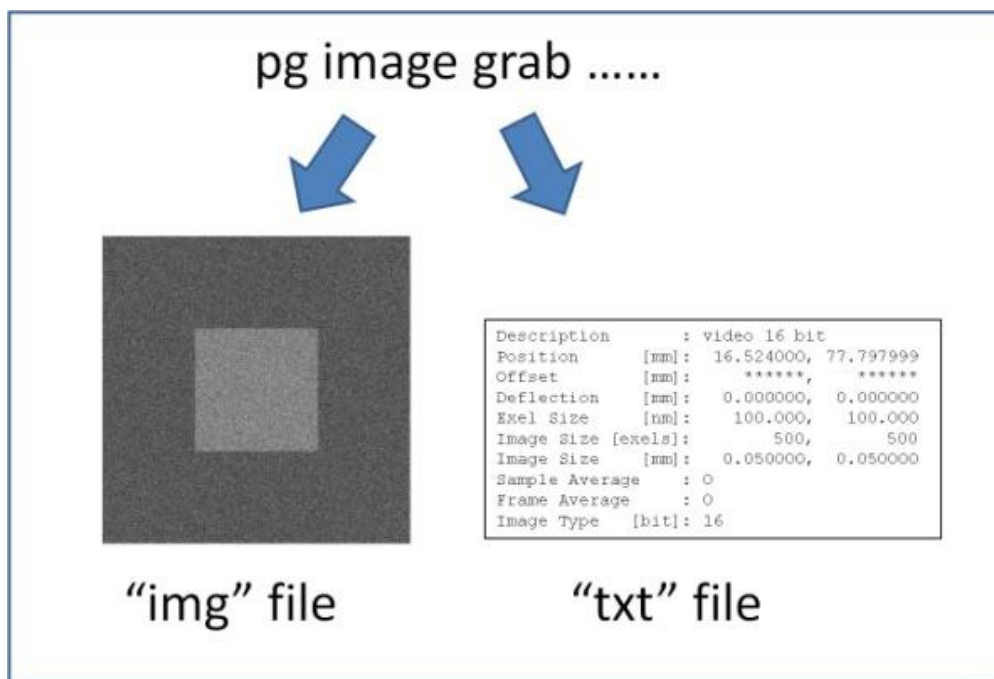

Figure 32 - Two files generated per image grab
- Width and height : <Image size [exels]> (can be find in txt file, Figure 32)